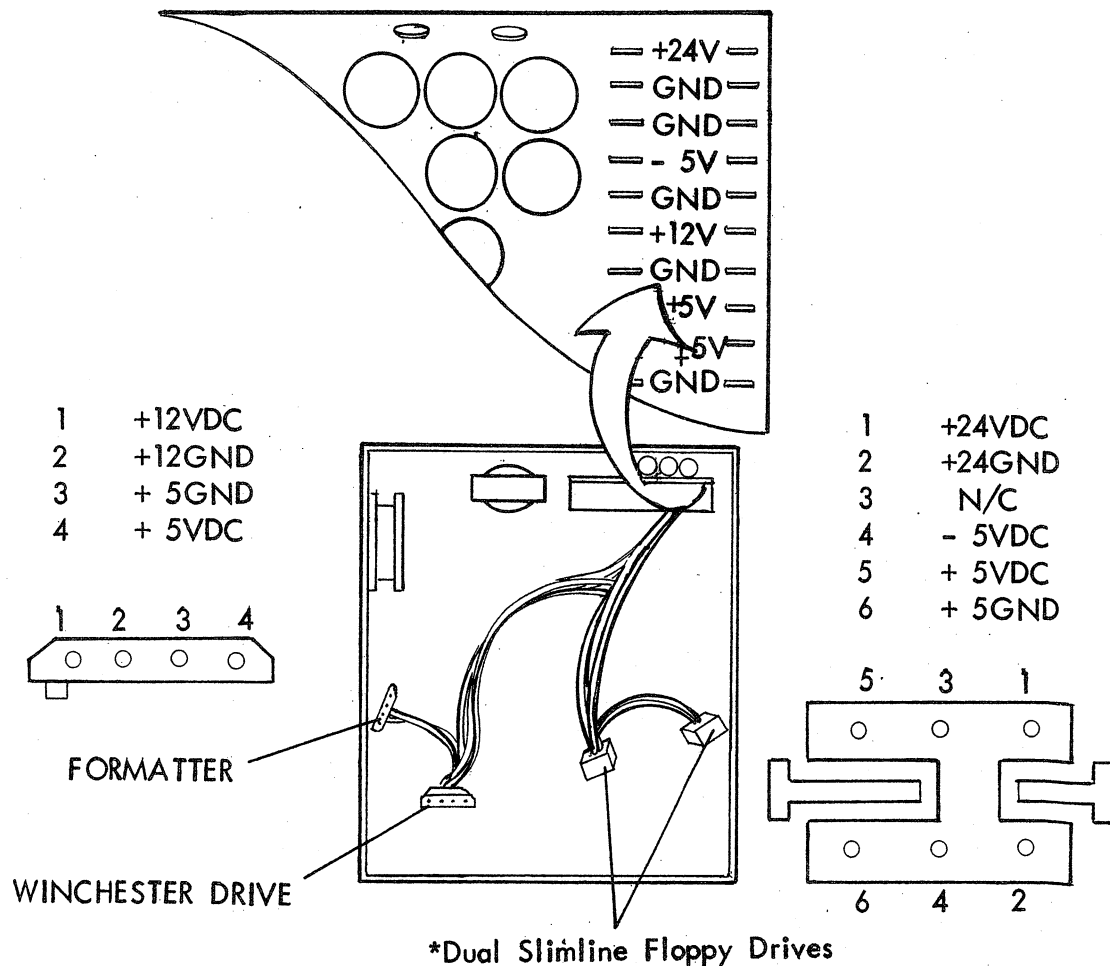
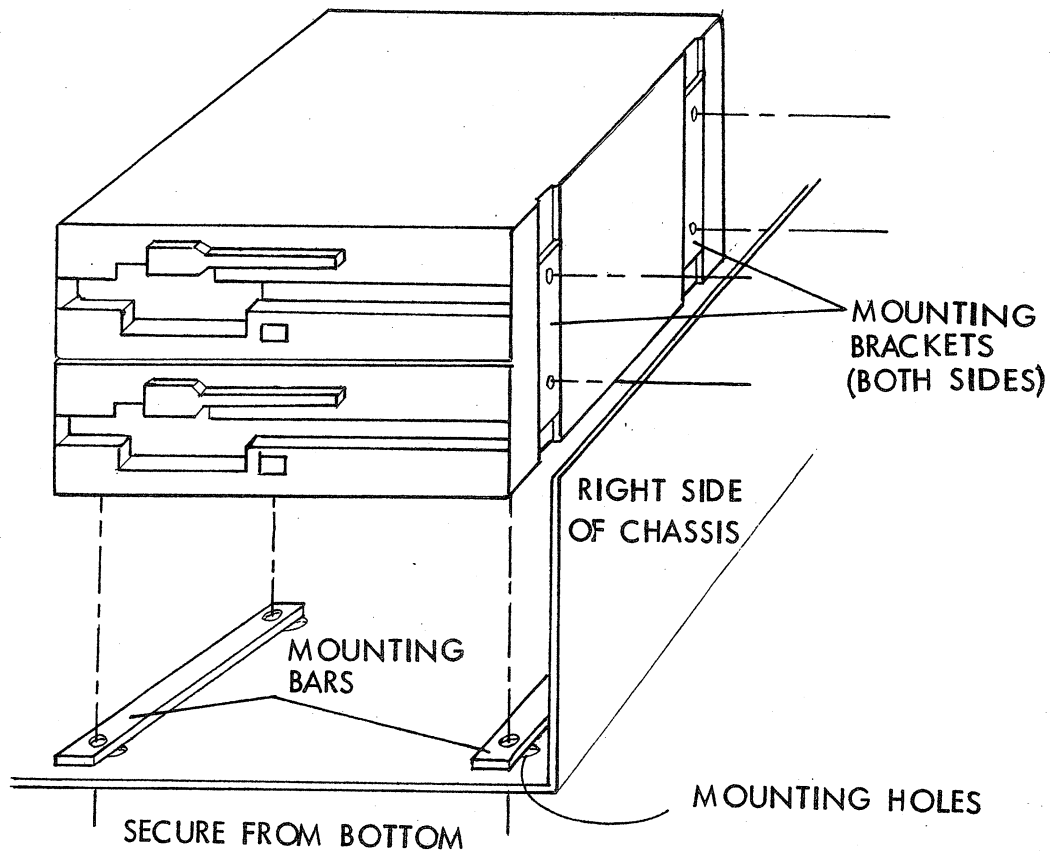

FIGURE 2-1: DC POWER CONNECTORS
FIGURE 2-3: FLOPPY DRIVES INSTALLATION
Before installing the drives, verify correct DC power at the cable connectors or from the power control module. The cable connectors are illustrated and voltages are defined in Figure 2-1 below.
1. Using Figure 2-3 as a guide, install two mounting brackets on each side of the drives using #6-32 flathead screws.
3. Using Figure 2-1 as a guide, connect the proper power cables to the power connectors.
When installing other 8" devices such as a standard floppy drive or tape cartridge transport, place the device on the mounting bars shown in Figure 2-3 and secure from the bottom mounting holes using #8-32 panhead screws. Using Figure 2-1 as a guide, connect the proper power cables to the power connectors.
7. Using Figure 2-1 as a guide, connect the proper power cables to the power connectors.
8. Place the second drive over the mounting bars shown in Figure 2-3 and secure from the bottom using #6-32 x 3/8 panhead screws.
12. Using Figure 2-1 as a guide, connect the proper power cables to the power connectors.